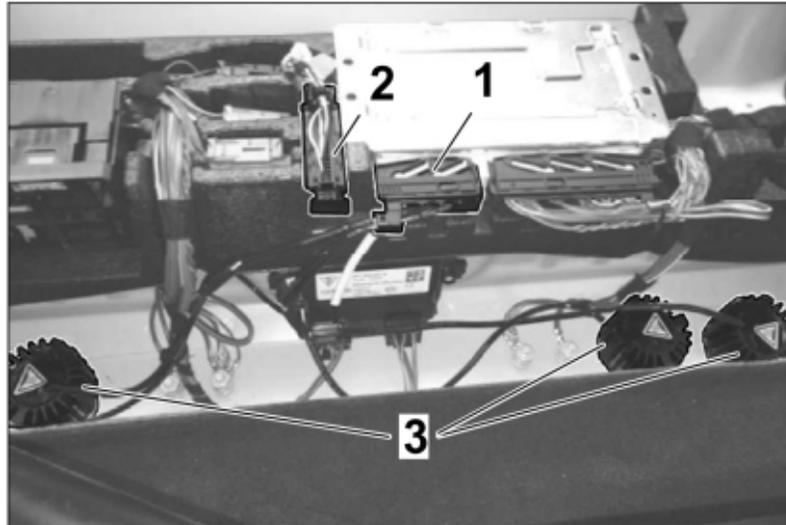

Figure 17
15. – Unlock and remove the connector ⇒ *Figure 17 -1-* for the damper control on the control unit.
16. – Fix the standard connector plug ⇒ *Figure 17 -2-* to the left of the control unit in the foam carrier.
18. – Attach the resistors as shown above ⇒ *Figure 17 -3-* on the surface below the control unit, cleaning the adhesive surface beforehand.